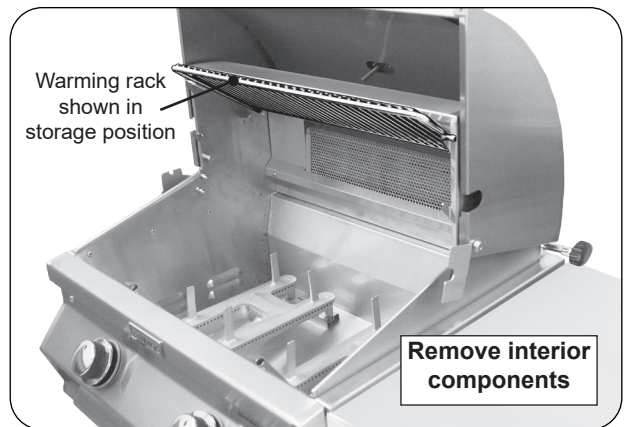

Fig. 37-1 Prepare grill for rotissing
1. Set the warming rack to storage position, remove the backburner cover and cooking grids (see Fig. 37-1).